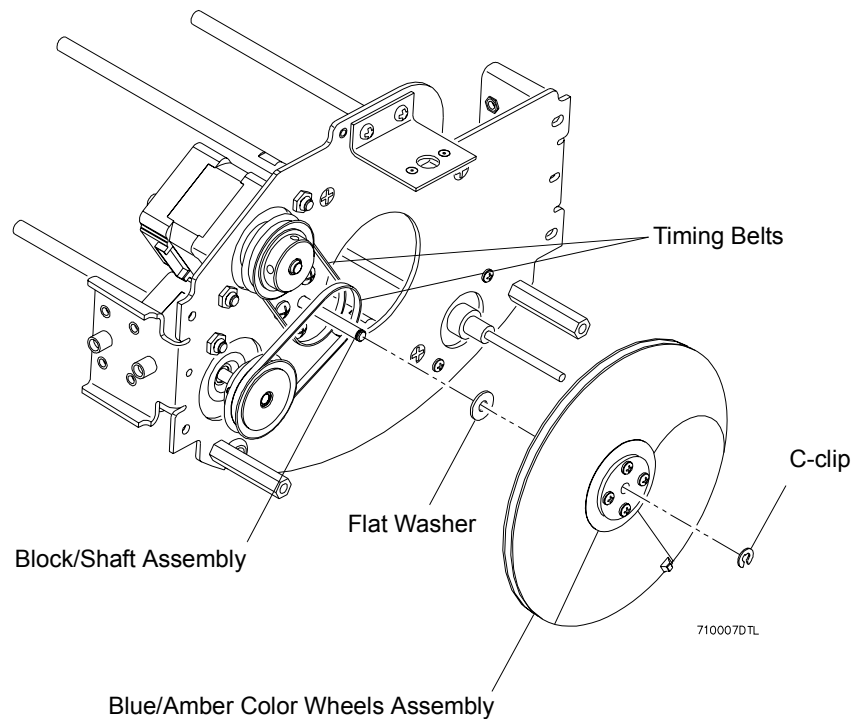

Figure 2-12: Blue/Amber Color Wheels Assembly Replacement
- Step 4. Remove timing belts from blue and amber color wheel pulleys (**Figure 2-12**).